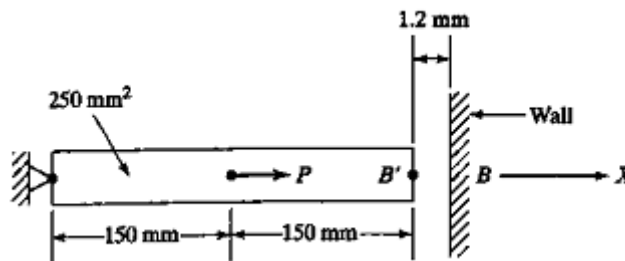

Figure.1
2. a) In the figure.1 shown, a load $P = 60 \times 10^3 \text{ N}$ is applied. Determine the displacement field, stress and support reactions in the body. Take $E = 20 \times 10^3 \text{ N/mm}^2$. [8]